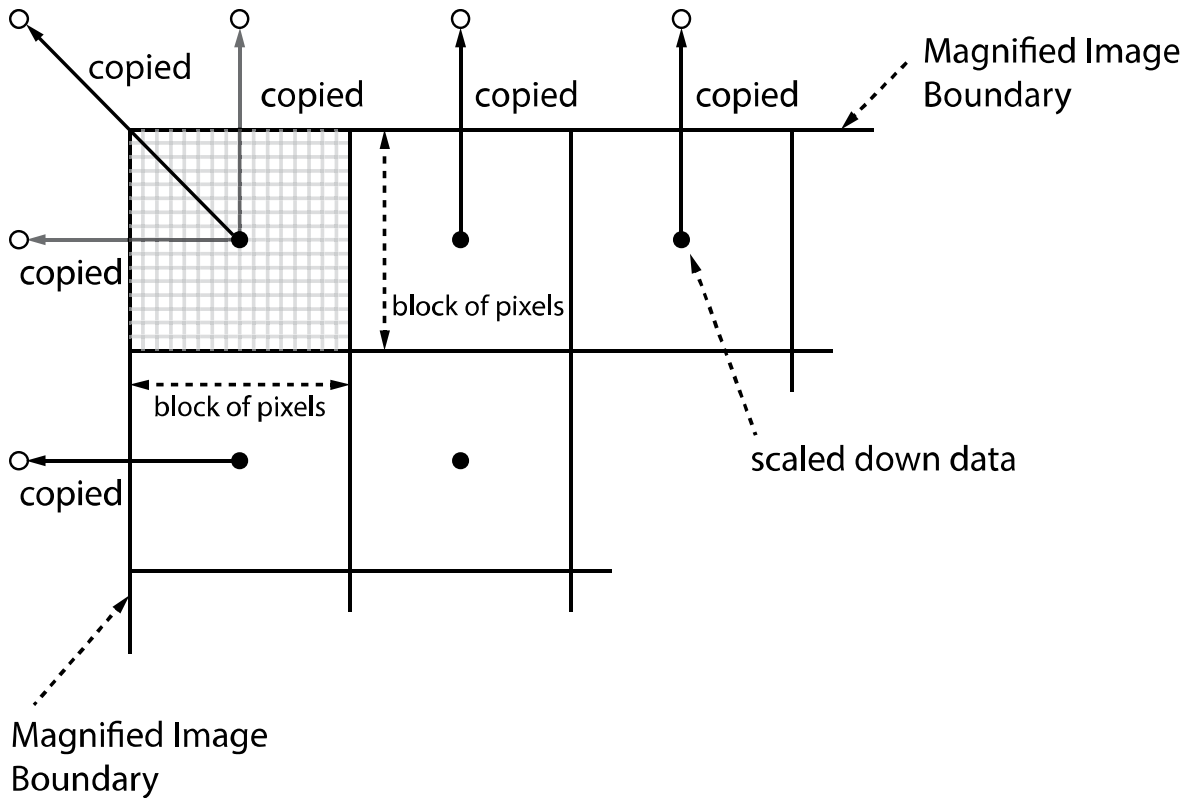

Figure 9-9 Bilinear Interpolated Magnification
3. Click the **Save to Flash** button in the **Flash Memory** category to save the generated Flat Field correction data into the non-volatile memory. The scaled-down Flat Field correction data will be expanded and then applied as shown in the **Figure 9-9** when it is used for correction.
3. Execute the 'sfd' command to save the generated Flat Field correction data into the non-volatile memory. The scaled-down Flat Field correction data will be expanded and then applied as shown in the **Figure 9-9** when it is used for correction.